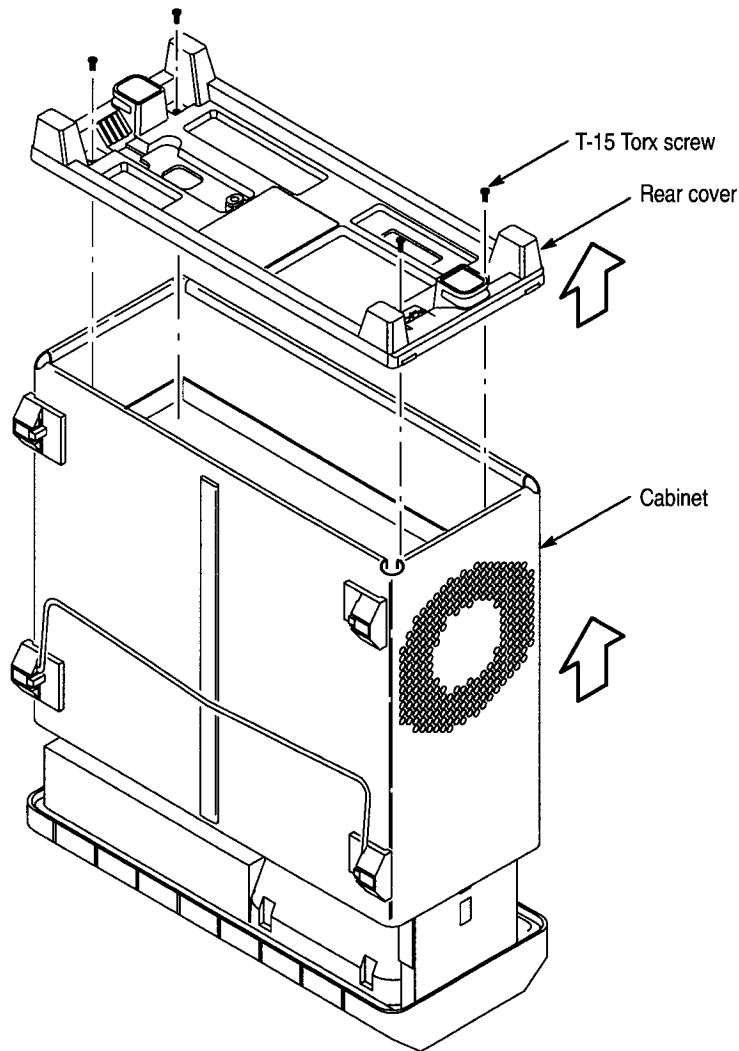

Figure 1: Oscilloscope rear cover and cabinet removal
1. Install the front cover. Set the oscilloscope face down with the front cover on the work surface and the bottom facing up (see Figure 1).